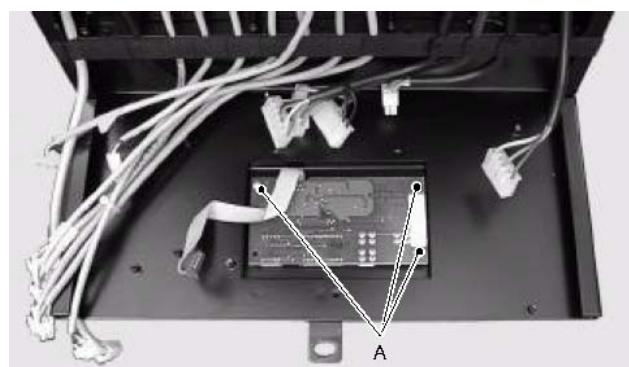

Fig. 30
- 4 Unscrew the screws A (Fig. 30) and remove the display p.c.b.